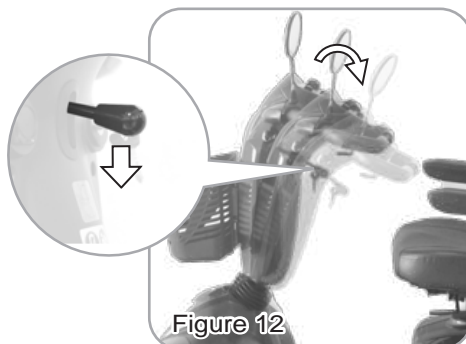

Figure 12
- Pull the tiller adjustment downwards to adjust tiller's angle and release to lock at a desired comfortable position. (Figure 12)